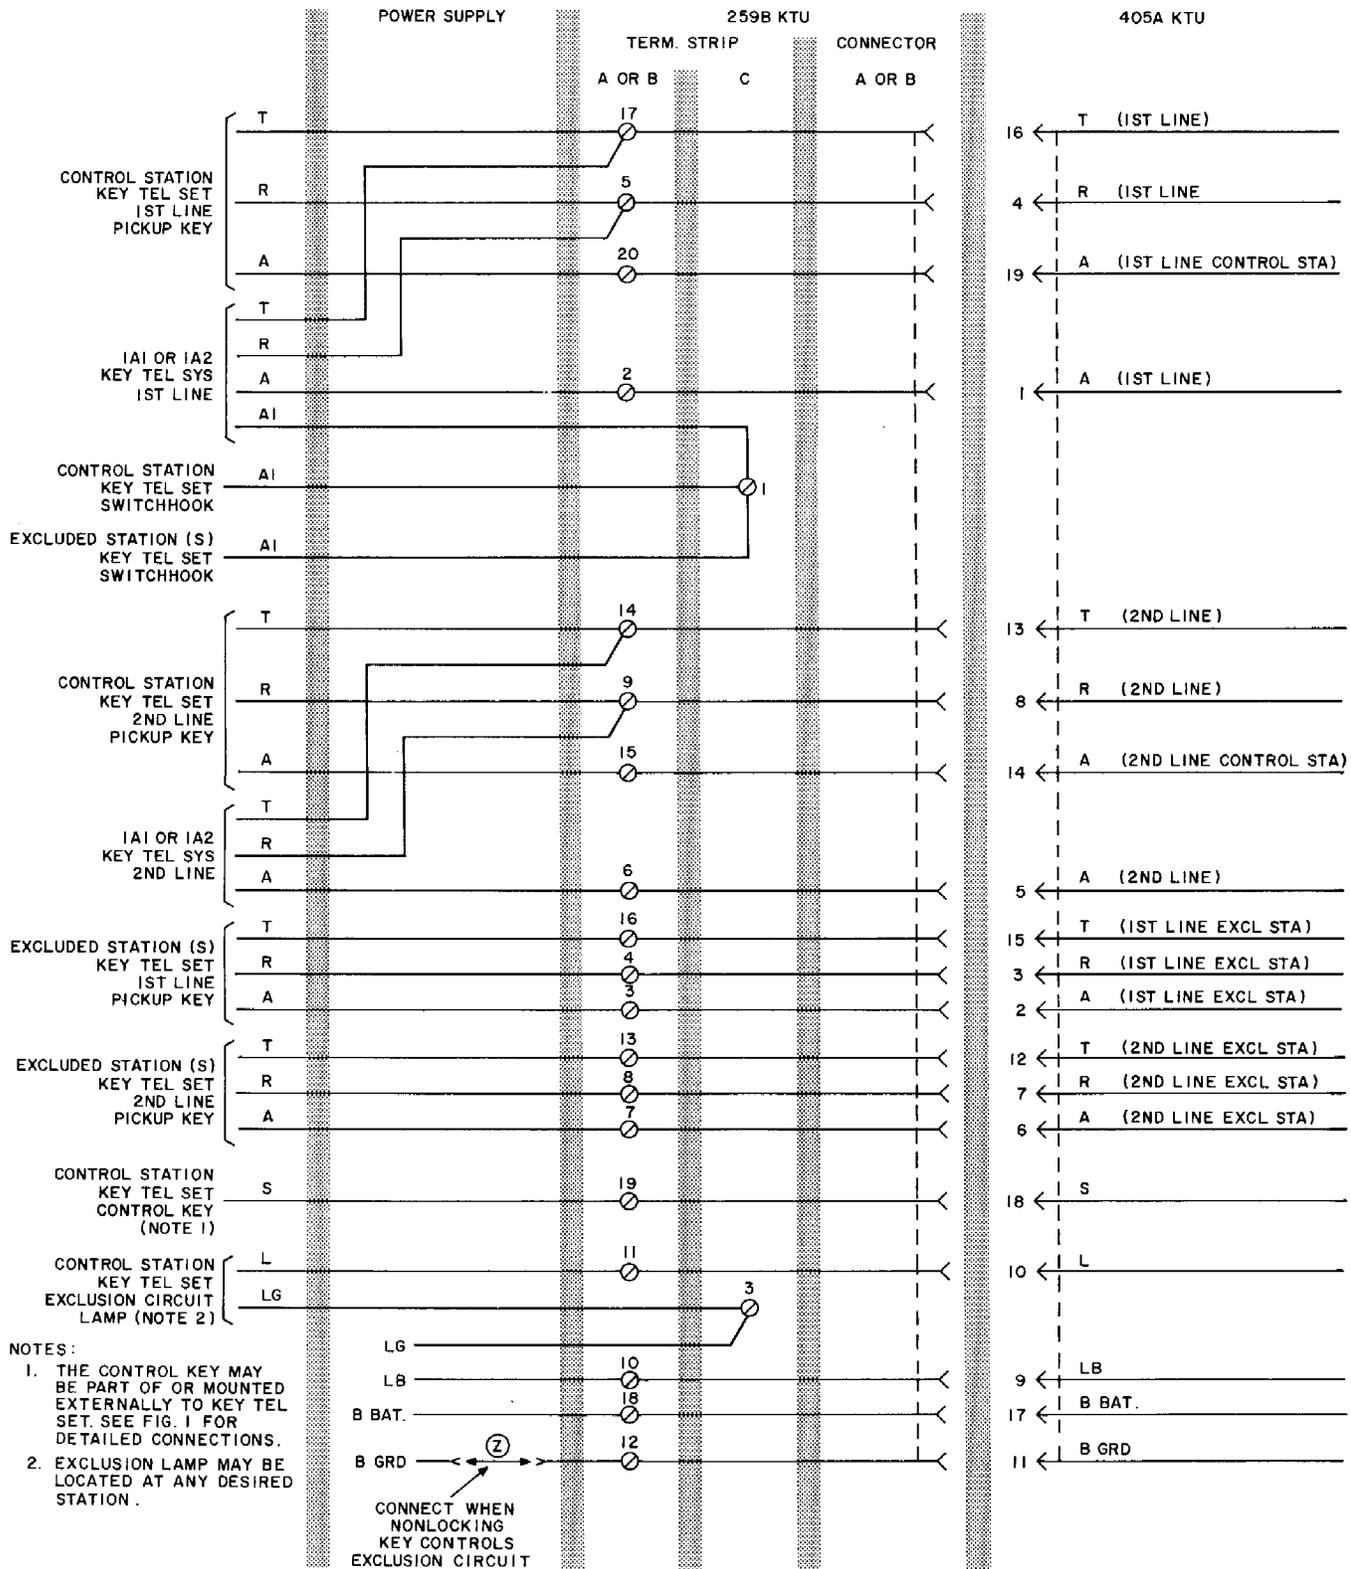

Fig. 2 — Connections for 405A KTU
**4.02** Connect the 405A KTU as shown in Fig. 2. The figure shows the connections required when using the 259B KTU adapter.
**4.03** Use option Z (Fig. 2) when a nonlocking key is used to control the exclusion circuit.